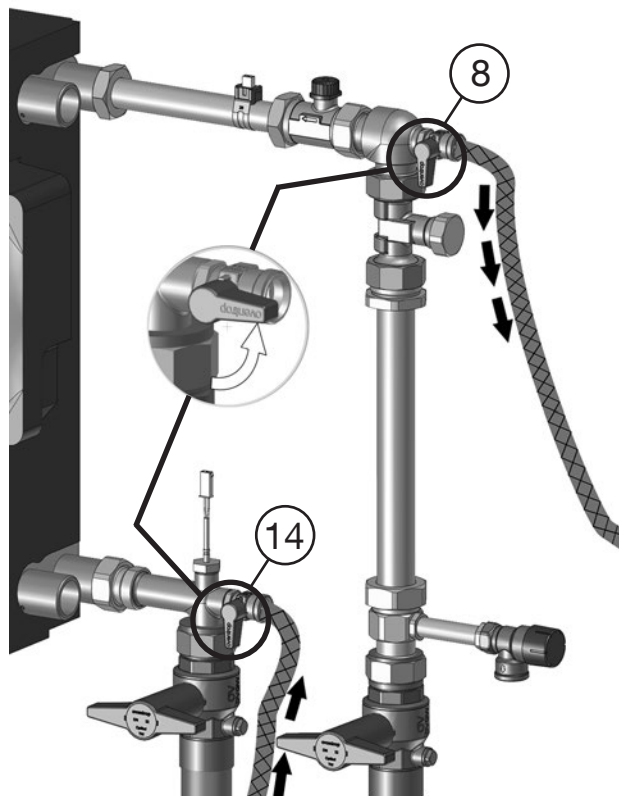

Fig. 5.3: Start the flushing process with anti-liming agent
5. Open the **ball valves (8 and 14)** slowly to start the flushing process with anti-liming agent (Fig. 5.3).
9. Close the **upper fill and drain ball valve (8)** (see Fig. 5.3).